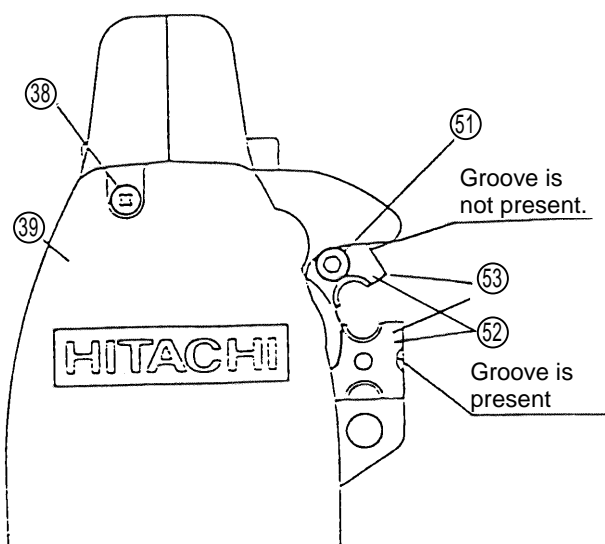

Fig. 24
The W3/8 Cutters (53) must be mounted in the proper directions. As shown in Fig. 24, they must be mounted so that if the groove in the side of one cutter is present (Yes), the groove in the side of the outer cutter is not present (No). After mounting direction has been confirmed, fasten the cutters with the two M5 x 9 Special Bolt (51)